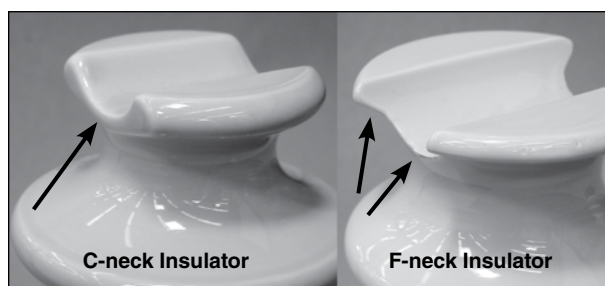

Figure 1a
3. The shoulder extensions result in difficulty in application of top ties. As the tie is rotated, the added protrusions from the shoulders past the end of the top groove provide catch points for the tie (see F-neck Insulator in Figure 1a).